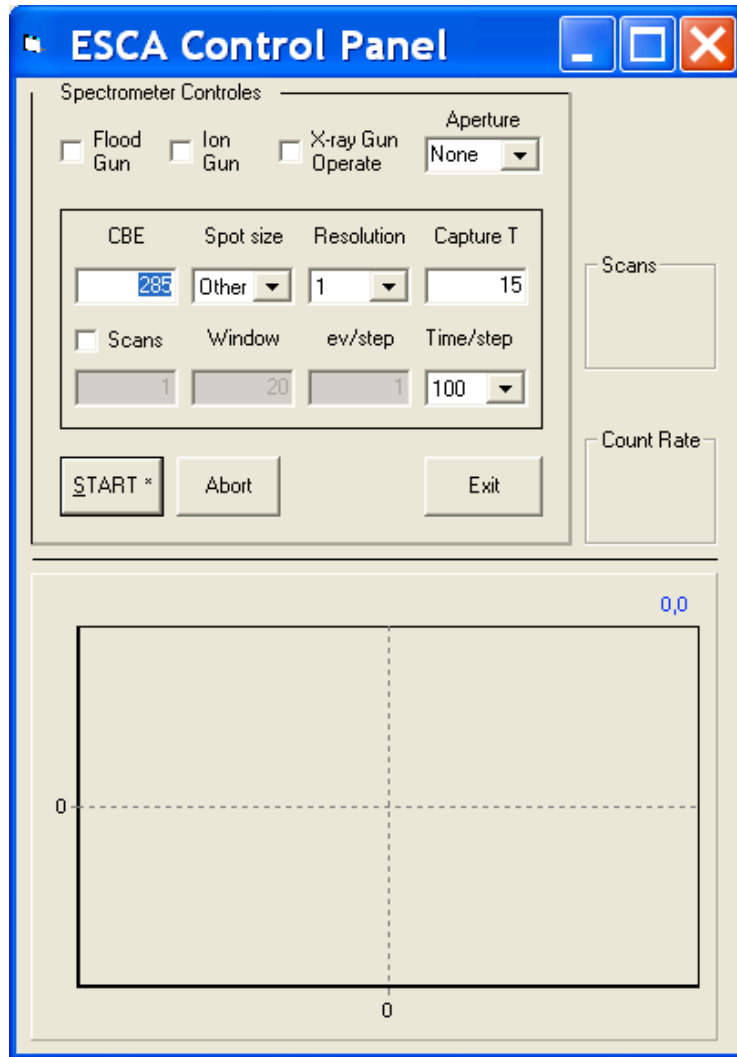

Figure 14. The ESCA control panel dialog. Used to run quick ESCA spectra without keeping a record.
- 4.3 Use the ESCA control panel (available from the main screen pull-down menu, Fig. 14) to fine-tune the sample Z alignment using the actual system count rate obtained directly from the sample. Re-save the position data using the *Save>Exit* button.